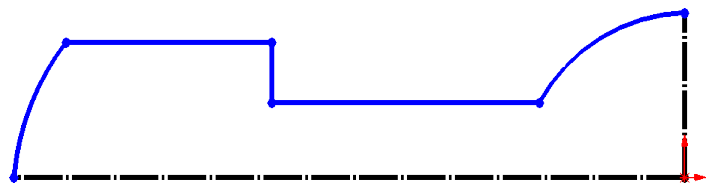

Fig. 4
Step 7. Click **3 Point Arc**  (S) in the **Arc flyout**  on the Sketch toolbar.
Step 8. Sketch the **two arcs**, **Fig. 4**.